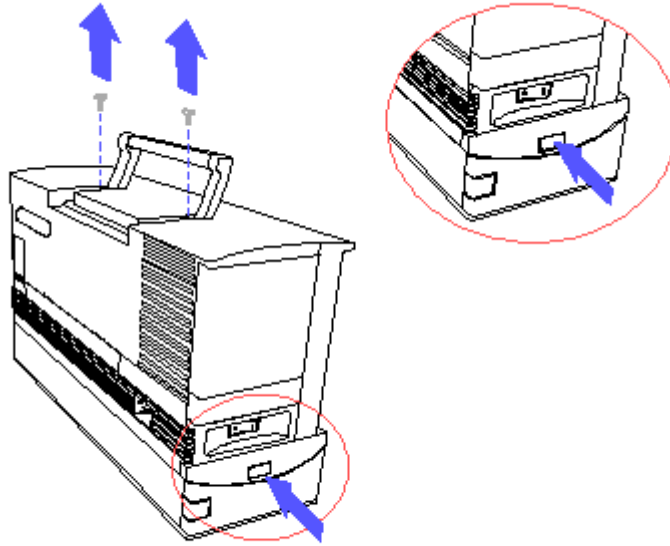

Figure 5-5. Removing the Rear Panel Screws
1. Push the tilt adjustment buttons on the sides of the computer in and tilt the display assembly forward (Figure 5-5).
2. Lift the handle and remove two screws, using a Torx T-15 screwdriver (Figure 5-5).